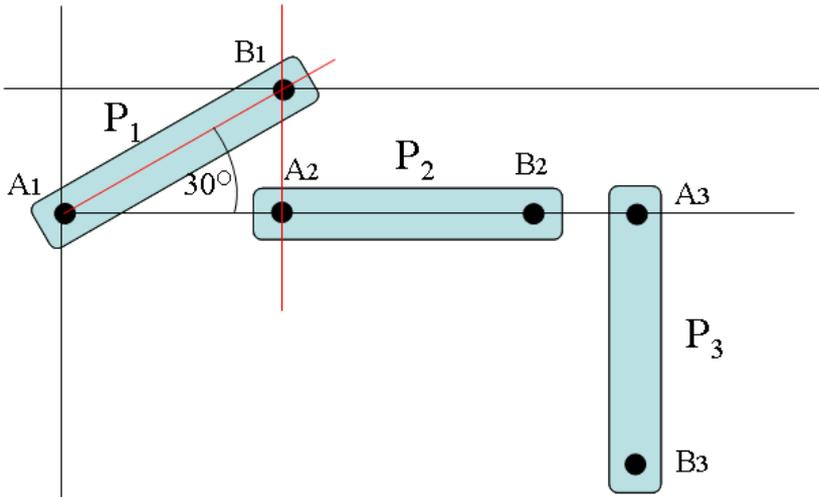

Figure P-2
2. Synthesize a four-bar linkage to generate the three rigid-body position shown in figure P-2. (Note: $A_1B_1=5\text{cm}$, $B_2A_3=2\text{cm}$) (40%)